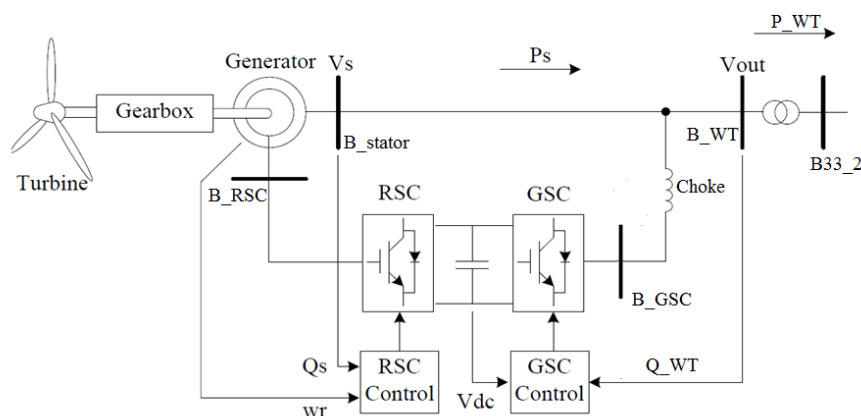

Fig. 1 DFIG-WT configuration
Open the DFIG-WT model you saved in your week 3 exercise. The model represents 1 of the six wind turbines present in the wind farm. The model is based on the DFIG-WT configuration shown in Fig.1. For an easier understanding of the effects of a short circuit fault on the operation of DFIG-WT, perform this task at constant wind speed of  $10.5\text{m/s}$ .
- iv) Sketch a schematic diagram of the WT (as in Fig 1) with the crowbar circuit and chopper circuit included. **[5 marks]**